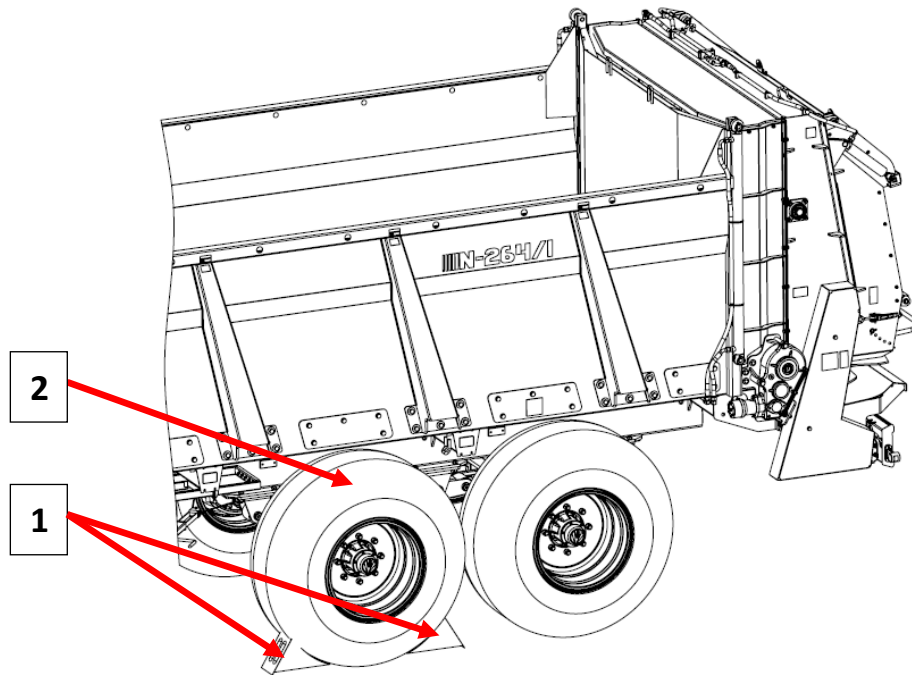

Figure 3.3. The way of placing the chocks.
- It is forbidden to park on the slopes with a loaded and unsecured machine. Securing is based on stopping with the service brake, parking brake and planting chocks under the wheels. Chocks (1) should be planted only under one wheel (2) (one on the front of the wheel and the other on the back - Fig. 3.3).